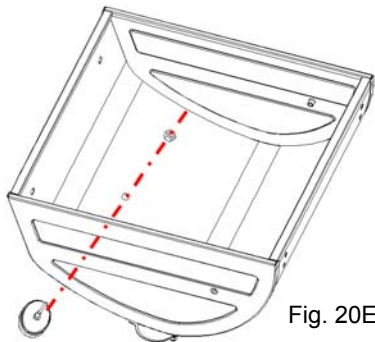

Fig. 20E
Place (1) Heat Indicator into the area in the center of Charcoal Grill Lid and fasten in place with the nut as shown as Fig. 20E.